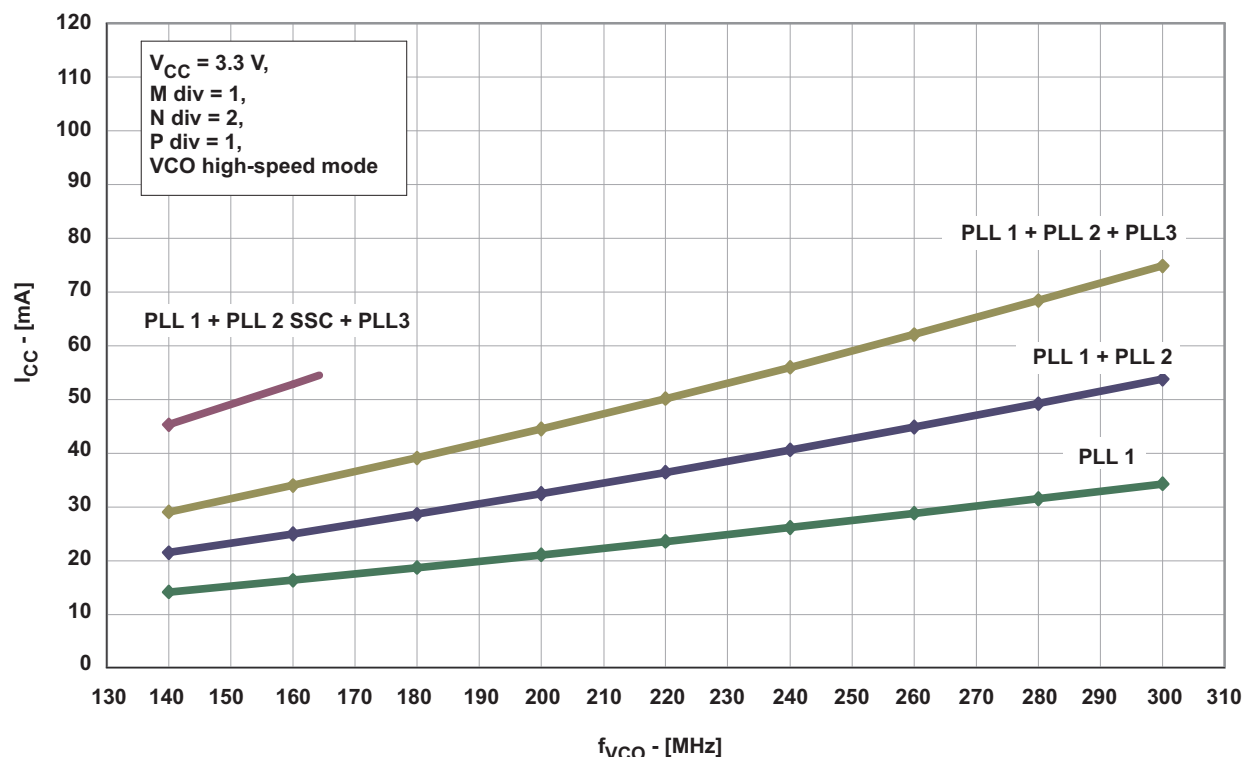

Figure 3. I_{CC} vs Number of PLLs and VCO Frequency (VCO at High-Speed Mode, Byte 6 Bit [7:5])
(1) All typical values are at respective nominal V_{CC} .(2) For calculating total supply current, add the current from Figure 2, Figure 3, and Figure 4. Using high-speed mode of the VCO reduces the current consumption significantly. See Figure 3.(3) Normal-speed mode or high-speed mode must be selected by the VCO frequency selection bit in Byte 6, Bit [7:5]. The min f_{VCO} can be lower but impacts jitter-performance.
(4) The maximum output frequency may be exceeded, but specifications under the Recommended Operating Condition may change and are no longer assured. Do not exceed the maximum power dissipation of the 20-pin TSSOP package (600 mW at no air flow).